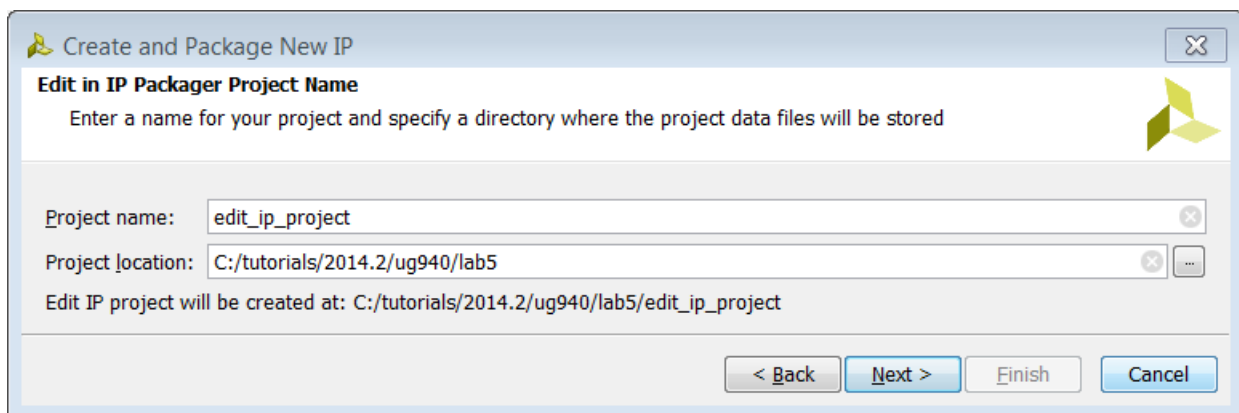

Figure 140: Edit in IP Packager Project Name page
6. In the Edit in IP Packager Project Name, leave everything to its default value and click **Next**. The Edit in IP Packager Project Name window opens (FIGURE 140).